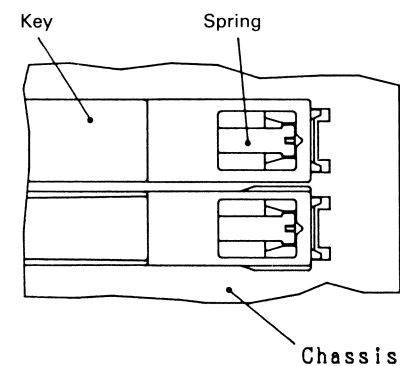

Fig.3
2. Pulling the key in the direction of arrow ②, disengage the key fulcrum from the chassis. See Fig.3 and 4 for disengaged status.